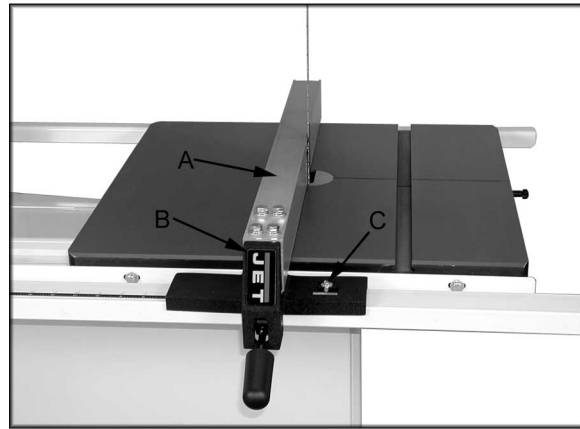

Figure 10
1. Attach the fence (A, Figure 10) to the fence body (B, Figure 10) with four 5/16" x 3/4" hex cap screws, four 5/16" lock washers, and four 5/16" flat washers.
7. Move the fence assembly so that it aligns parallel to the blade, and lock the fence by pushing the lock handle down, Figure 10.
9. Check to see that the pointer (C, Figure 10) is aligned with the zero marking on the guide rail. If adjustment is necessary loosen the screw that holds the pointer in place and line up to the zero mark. Tighten the screw.